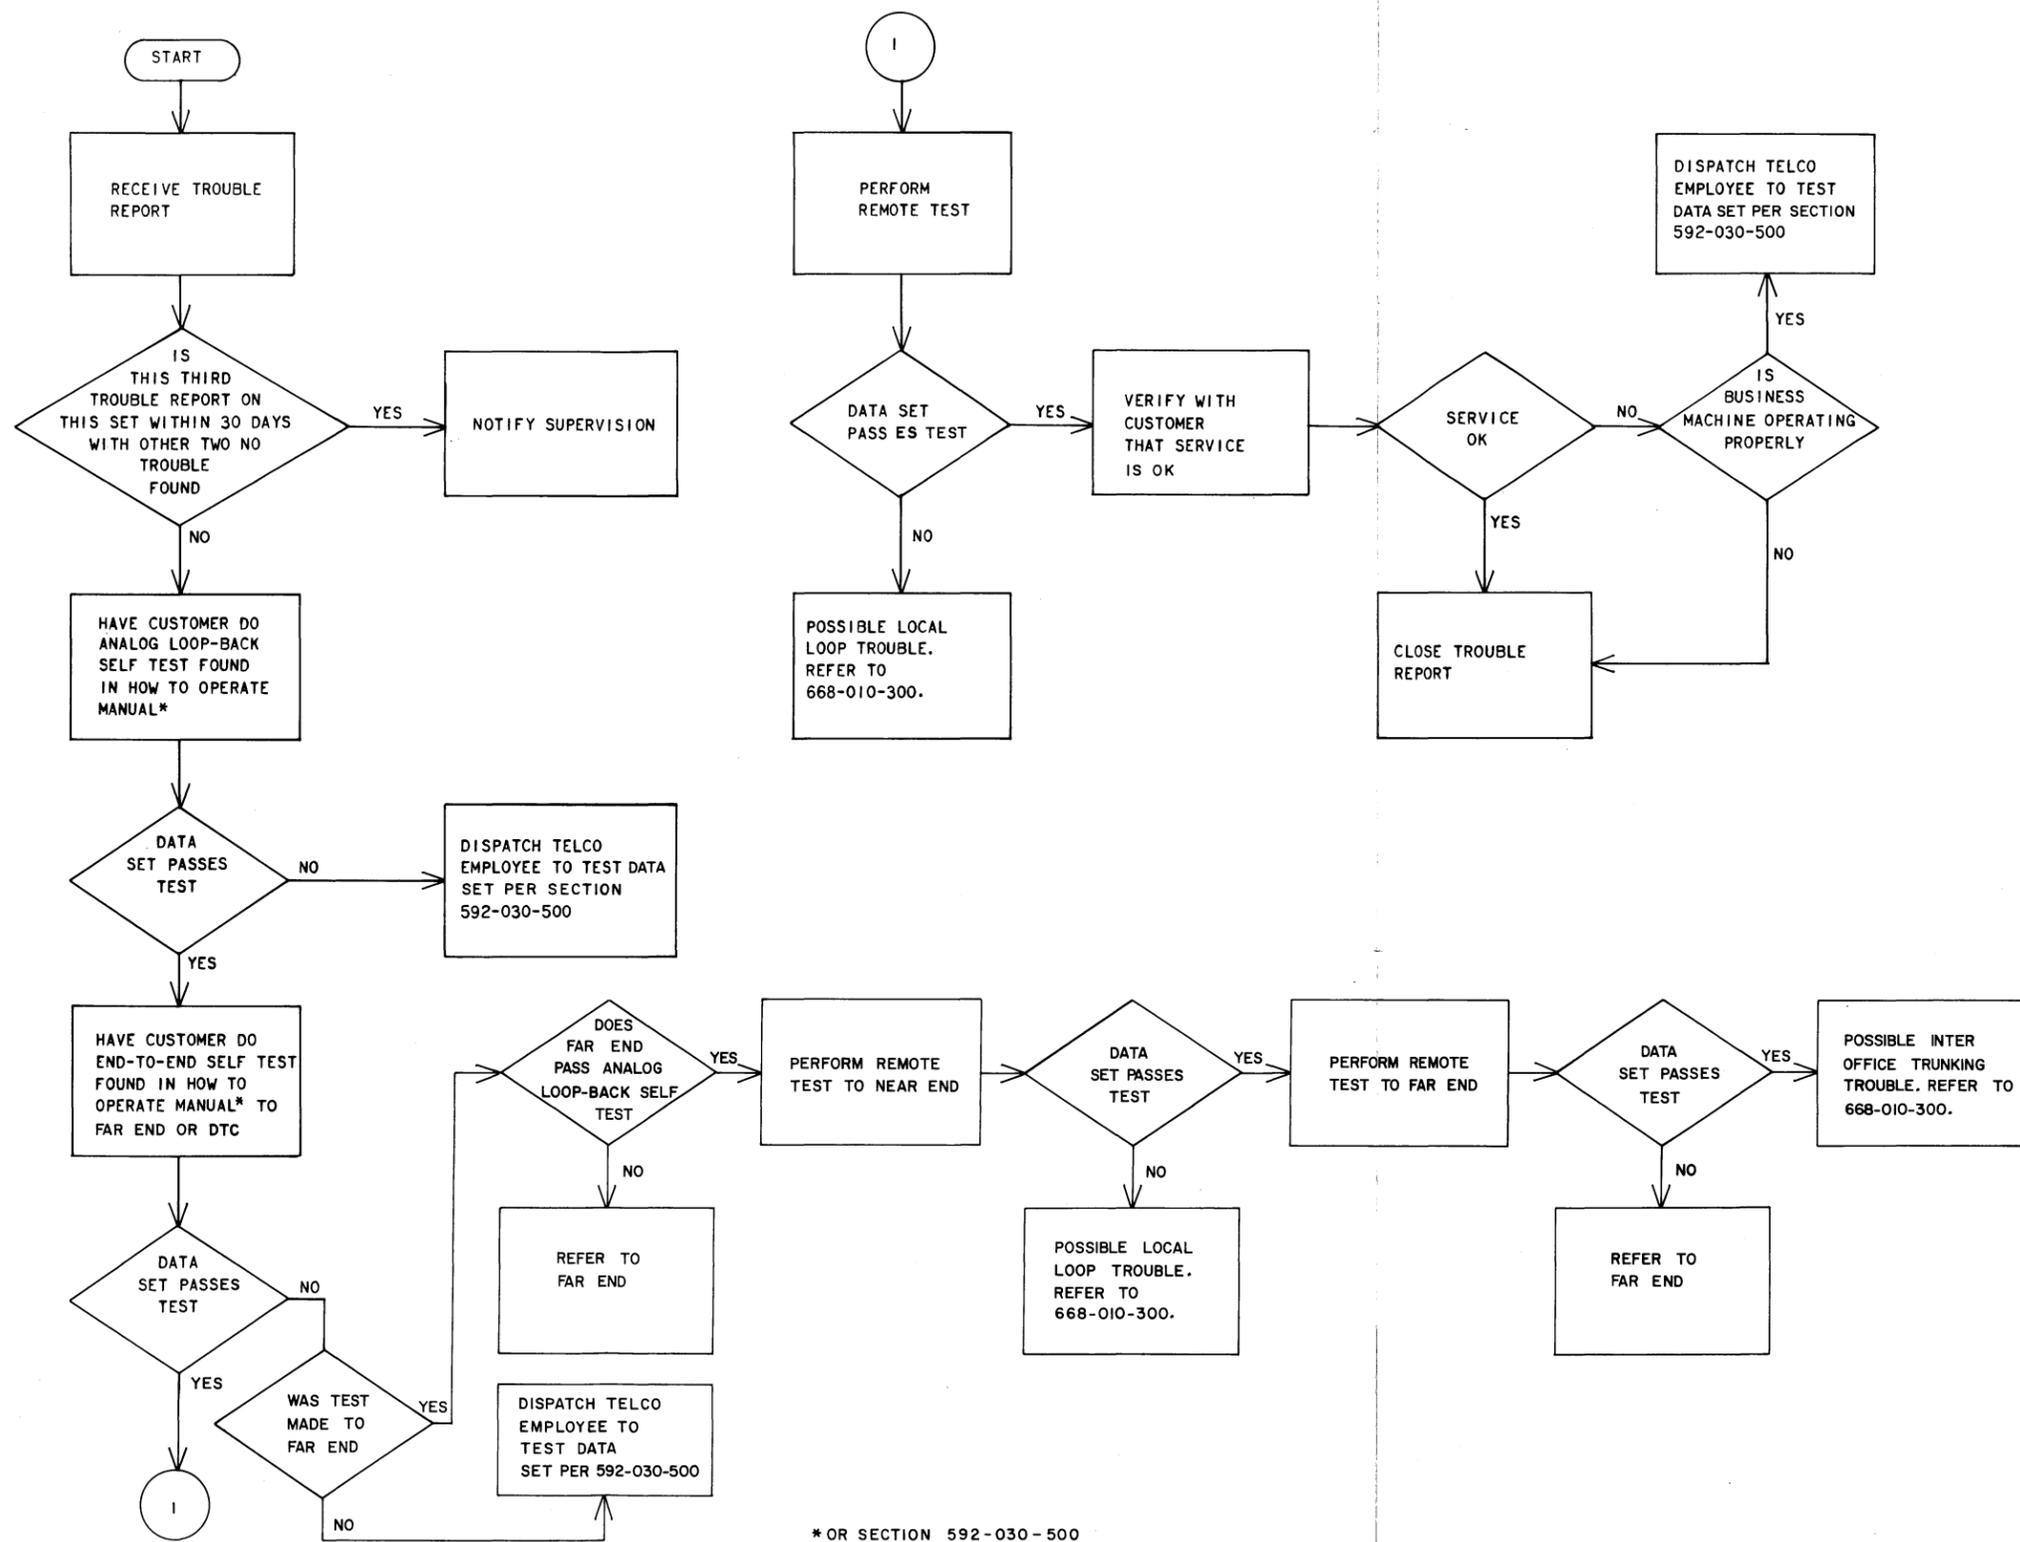

Fig. 1—Maintenance Flowchart for Data Test Center
1.09 When investigating trouble reports, the DTC will proceed as in Fig. 1. Refer to Section 592-030-500 for test procedures applicable to DS 208B-type.